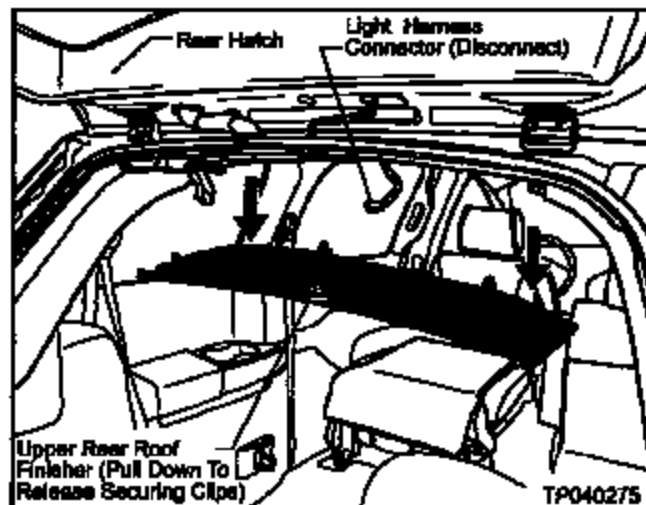

Figure A3
- b. Gently pull down on the Finisher to release the securing clips (see Figure A3).
- d. Disconnect the Vehicle Harness from the Light in the Finisher (see Figure A3).